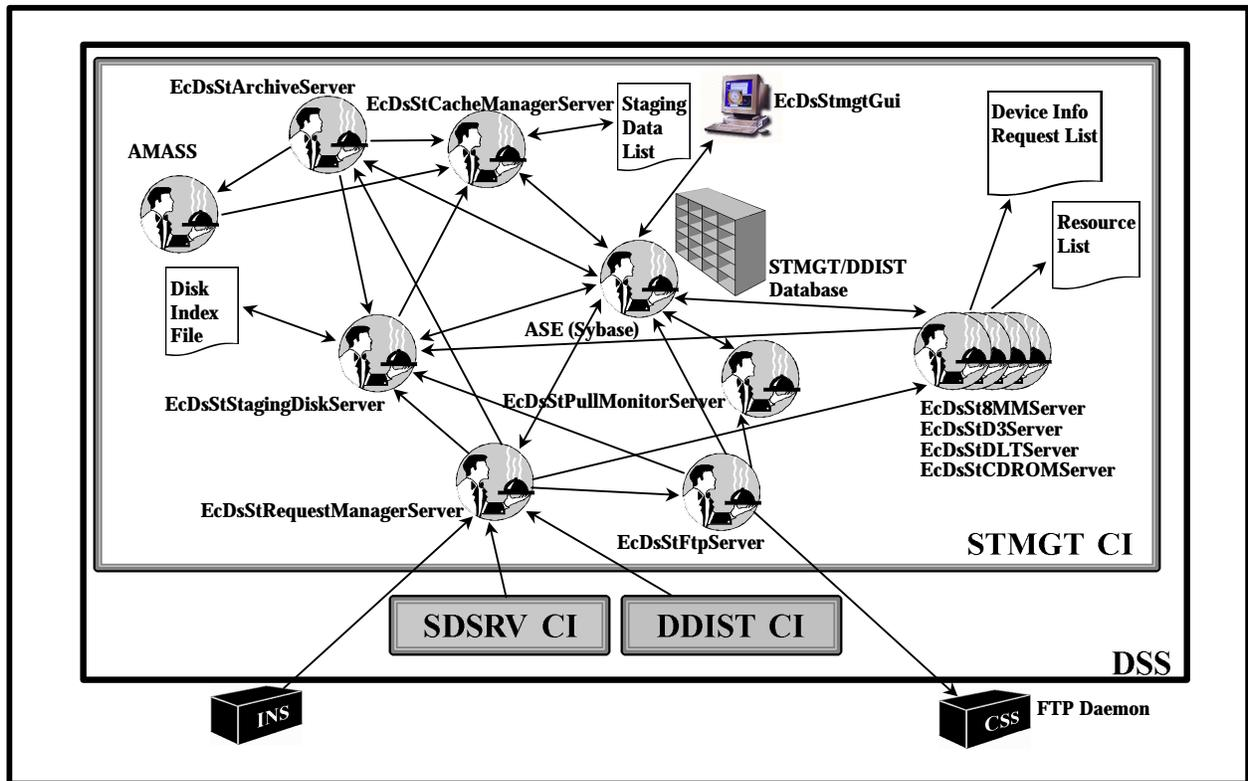

Figure 3. DSS Storage Management (STMGT) CSCI Architecture
- STMGT (Figure 3) is the part of the DSS that stores, manages, and retrieves data files on behalf of other parts of the Science Data Processing components (including Data Distribution).
STMGT has the following major components (as shown in Figure 3):